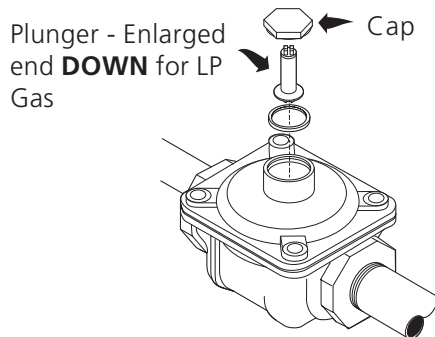

Figure 8
1. Convert the Pressure Regulator from Natural Gas to LP Gas (see figure 8)